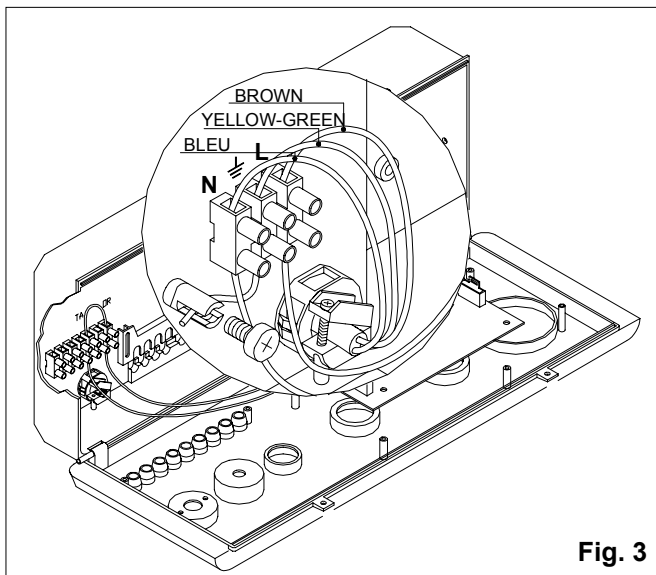

Fig. 3
- connect the yellow/green wire to the terminal marked with the earth symbol " \perp " (see fig.3).